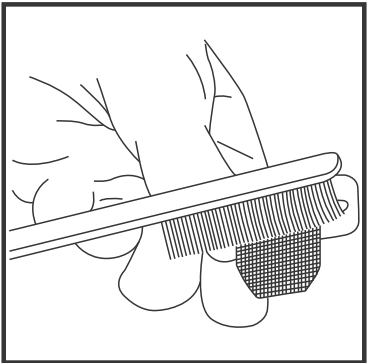

Figure 12
- b) Clean the retaining grid using a brush (Figure 12).